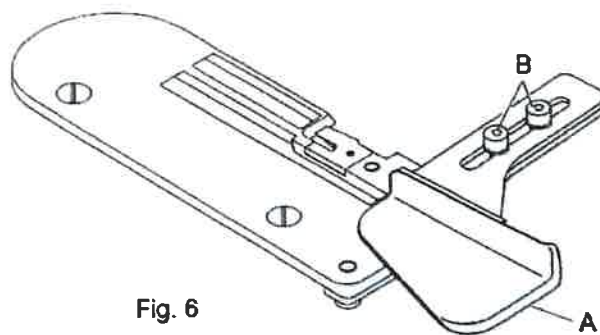

Fig. 6
Loosen two screws (B, Fig. 6) to move guide (A) right or left to adjust position of carpet edge.